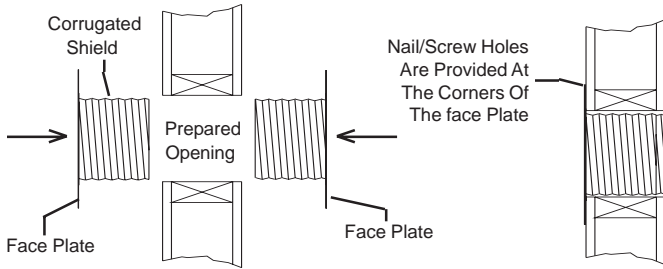

Fig 5
NOTE: The WT is shipped in the fully engaged position. Prior to installation, it is necessary to disengage the thimble halves. Disengage by rotating face plates in a counter clockwise direction. (CCW) (unscrew the two halves). (See Fig 5)
After preparing the proper sized opening (See Table 1), insert the two halves of the wall thimble from opposite sides of the wall and engage by rotating the face plates in a clockwise (CW) direction until a snug fit is achieved. If a tee section with support brackets is to be installed on one side of the wall penetration, it is recommended to frame the opening. The thimble is now installed and ready to receive a section of vent. Slide vent through Wall Thimble. (See Fig 5)